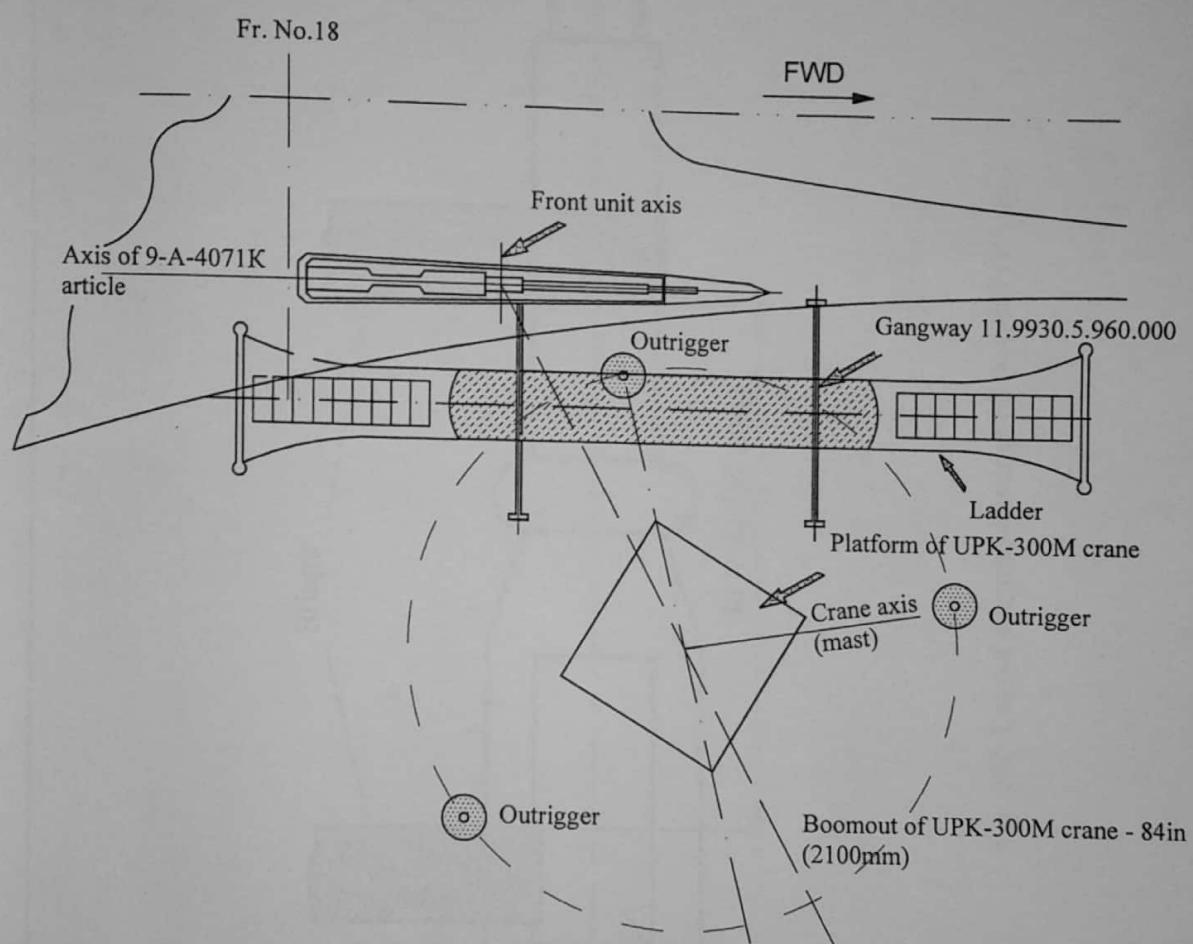

Fig. 201. Layout diagram of UPK-300M crane, ladders
2. Install ladders, refer to Fig. 201.
Install the crane, refer to Fig. 201.